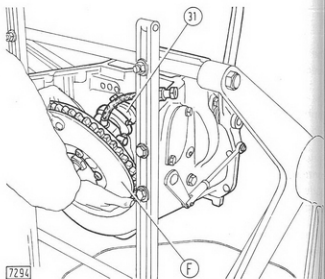

Fig. 110 - Dismantling (or Reassembling) the Clutch with the Gearbox on Rotary Stand Part No. 290086
1. Clutch assembly (F, Fig. 110).